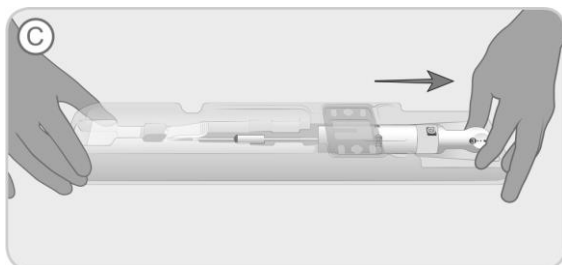

Figure 4. Pull device handle back to firm stop.
- C. Holding the tray steady, grip the rear of the handle (release cam) and pull until a firm stop is reached (indicated on the tray with "C"), Figure 4. The implant is now folded in the loading cannula tube.